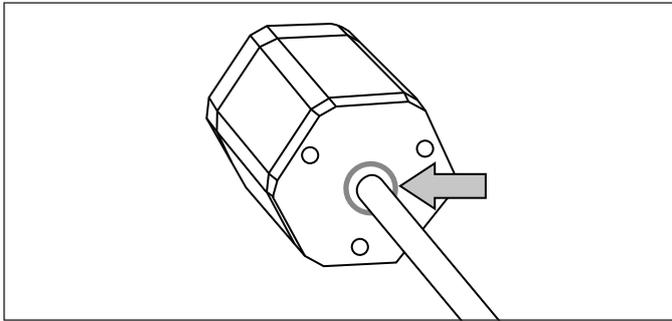

Fig. 23: Correct position of the O-ring in the groove of the sensor electronics housing
- Ensure that the O-ring seal (part no. 562 003) is correctly inserted in the groove on the sensor electronics housing before inserting the base unit into the support tube and attaching the sensor electronics (Fig. 23).
- Ensure that the O-ring seal (part no. 562 003) is correctly inserted in the groove on the sensor electronics housing before inserting the base unit into the support tube or the HFP profile and attaching the sensor electronics (Fig. 23).